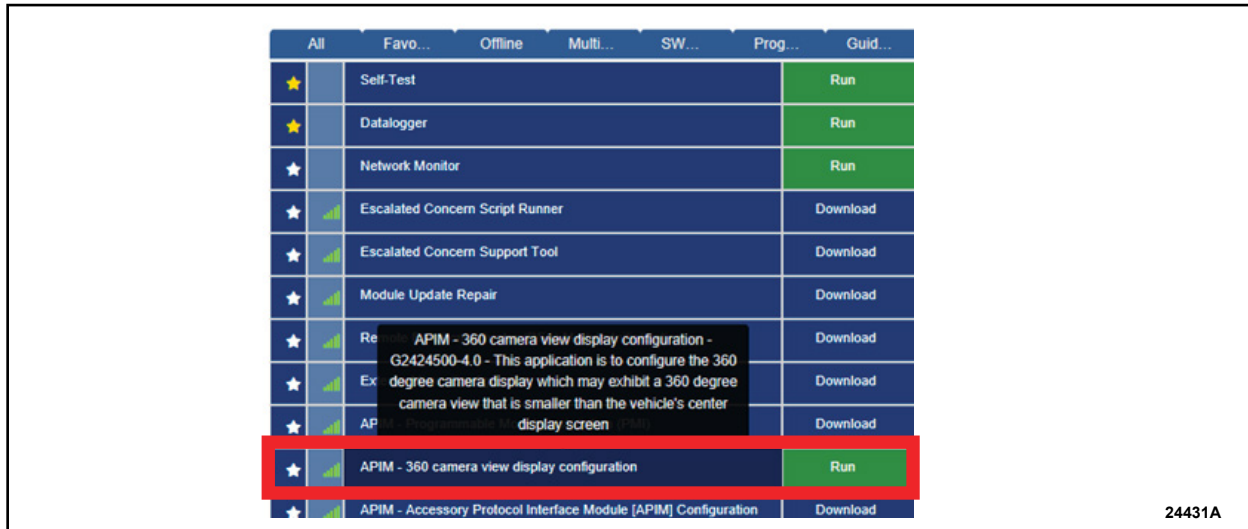

FIGURE 1
- b. From the list on the RH side of the screen, select **APIM - 360 camera view display configuration**. See Figure 1.